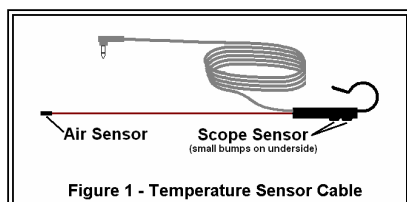
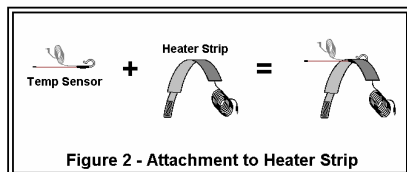
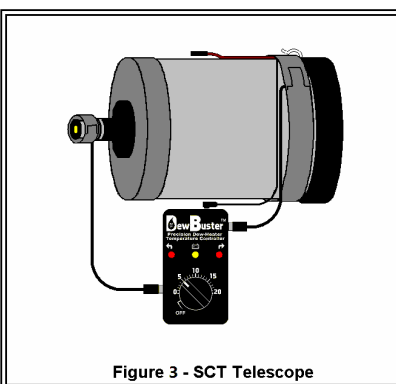
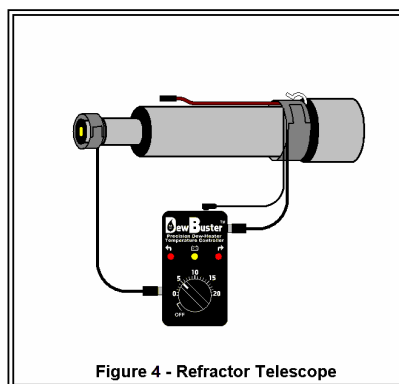

Figure 1 - Temperature Sensor Cable
Figure 2 - Attachment to Heater Strip
Figure 3 - SCT Telescope
Figure 4 - Refractor Telescope
- Attach Sensor Cable (Fig.1) to heater strip as shown in Fig.2.
- Attach heater strip to telescope (Fig. 3 or 4) making sure Scope Sensor (Fig.1) is against telescope tube and Air Sensor does not touch telescope. **NOTE: The best location for the heater strip is just behind the corrector plate casting (Fig.3) or refractor dew shield (Fig.4) so that it warms the air inside the telescope as close to the lens as possible. Do not place heater around dew shield because the heat will just escape into the atmosphere.**
- Plug Temperature Sensor Cable into Left or Right Sensor input (Fig. 4 or 5) and plug heater strip into the Temperature Controlled Output on that side (color coded yellow, see diagram on page 1).
Red LED of Temperature Controlled heater stays on constantly	<ul style="list-style-type: none"> • When first turned on the red LED may stay on for a few minutes while the telescope is warming up to set temperature, but LED should blink after telescope warms up. • Temperature Sensor not making contact with telescope. The little "bumps" on Scope Sensor must be against telescope tube so they can measure its temperature accurately? • Check that heater is against a metal part of telescope with proper side toward telescope (fuzzy side of heater is usually outside) and is sufficient in size to provide enough heat. • Air Sensor (page 2 Fig.1) is too close to a warm object like a heater strip or your body.